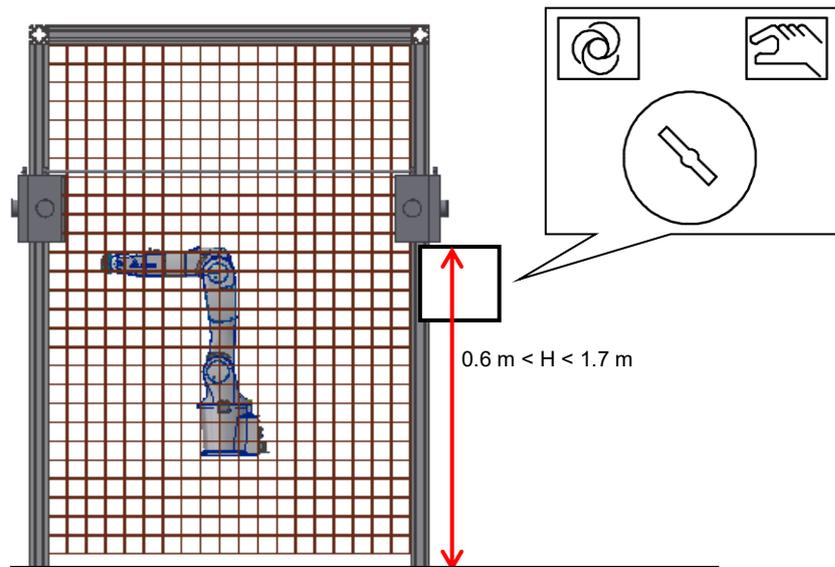

Figure 7.31 Mode selection switch installation location
5. The mode selection switch can be installed outside the railing together with the operation panel constructed by the user, as shown in Figure 7.31. Operation panel should be from the ground 0.6m to 1.7m between to make it easier for users to operate.